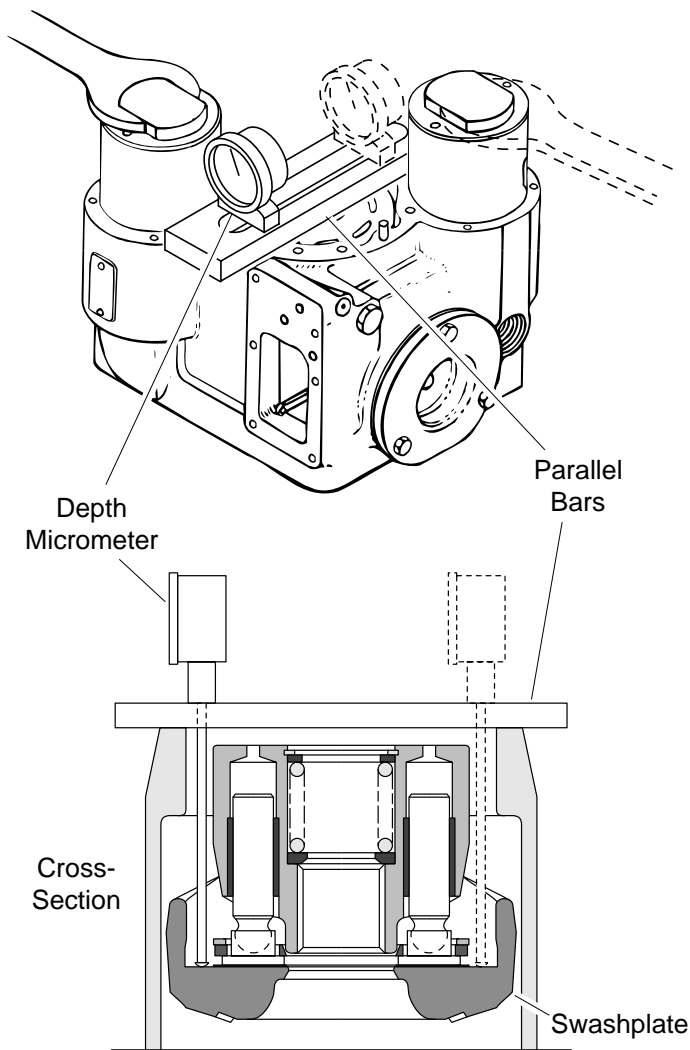

Figure 20
**69** Place parallel bars across the end cover gasket surface and measure the depth to the swashplate on each side of the cylinder barrel, as shown in figure 20.